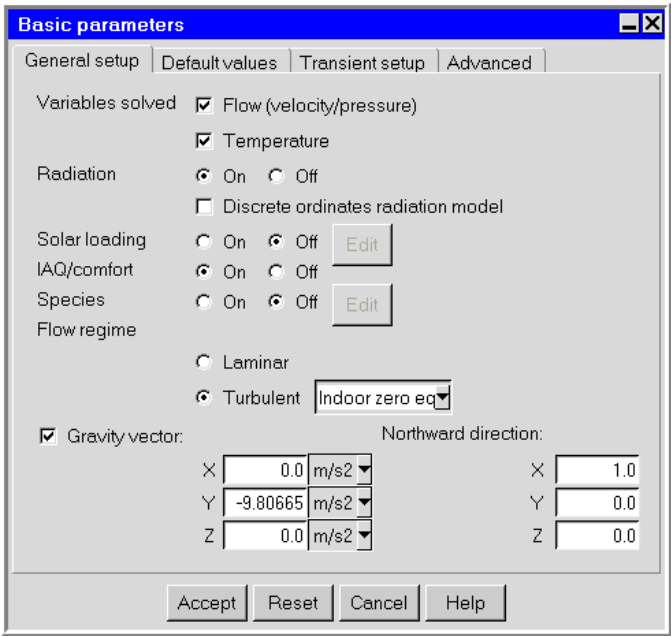

Figure 6.4.1: The Basic parameters Panel (General setup Tab)
You can specify parameters for the current model in Airpak using the **Basic parameters** panel (Figures 6.4.1, 6.4.2, 6.4.3, and 6.4.4). The types of parameters you can use to describe your model include the following:
To open the **Basic parameters** panel (Figures 6.4.1, 6.4.2, 6.4.3, and 6.4.4), double-click on the **Basic parameters** item under the **Problem setup** node in the **Model manager** window.
Airpak allows you to choose the variables you want it to solve in your simulation. Four options are presented in the **Basic parameters** panel (**General setup** tab): **Flow (velocity/pressure)**, **Temperature**, **Radiation**, and **Species**. (Figure 6.4.1). These options are discussed below.
- To solve the problem for flow, select **Flow (velocity/pressure)** under **Variables solved** in the **General setup** tab of the **Basic parameters** panel (Figure 6.4.1). You must also specify the **Flow regime** in the **General setup** tab of the **Basic parameters** panel to be **Laminar** or **Turbulent** (see Section 6.4.3 for more details on selecting a flow type).
- To solve the problem for species, select **On** for **Species** in the **General setup** tab of the **Basic parameters** panel (Figure 6.4.1). The procedure for defining a species transport calculation is described in Chapter 21.
You can choose whether to solve the problem for radiation. If you want to solve for radiation, select **On** for **Radiation** in the **General setup** tab of the **Basic parameters** panel (Figure 6.4.1). If you do not want to solve for radiation, select **Off**. The surface-to-surface radiation model is used for modeling radiation by default. If you want to use the discrete ordinates (DO) radiation model instead, select the **Discrete ordinates radiation model** in the **Basic parameters** panel.
1. Select **Laminar** or **Turbulent** under **Flow regime** in the **General setup** tab of the **Basic parameters** panel (Figure 6.4.1) to specify a laminar or turbulent flow.